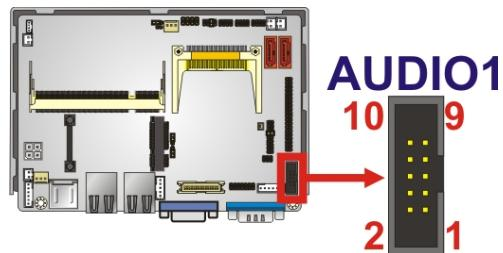

Figure 3-3: Audio Connector Location
**CN Location:** See Figure 3-3